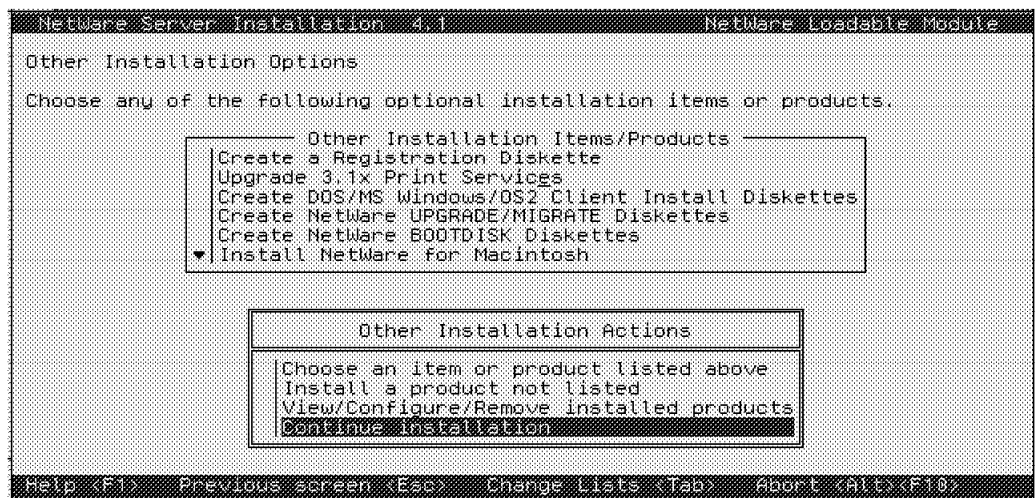

Figure 105. Other Installation Options
45. When all files have been transferred, a screen like the one in Figure 105 will appear.